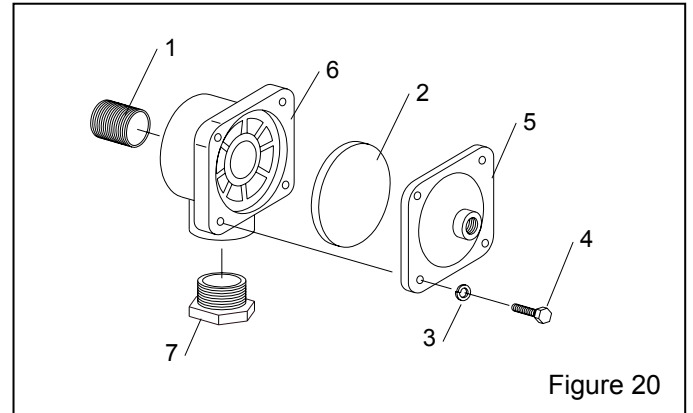

Figure 20
9.5 1" Diaphragm Outlet Valve, Figure 20